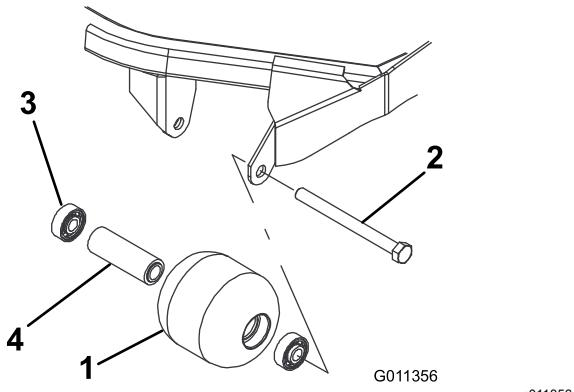

Figure 88
1. Remove the roller-mounting bolt (Figure 88).
4. Inspect the roller housing, bearings, and bearing spacer for damage (Figure 88). Replace any damaged components and assemble them.
1. Press the first bearing into the roller housing (Figure 88). Press on the outer race only or equally on the inner and outer race.
2. Insert the spacer (Figure 88).
3. Press the second bearing into the roller housing (Figure 88). Pressing equally on the inner and outer race until the inner race contacts the spacer.